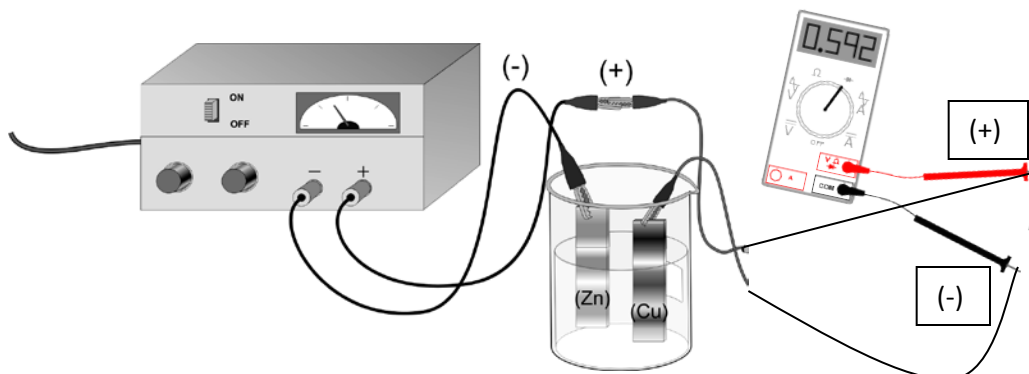

Figure 1
5. Obtain a DC power supply and a Voltmeter from the stockroom. Use the connecting alligator clip wires to connect the DC power supply to the Voltmeter, and to the two metal electrodes used in the electrochemical cell as shown in Figure 1. DO NOT ALLOW THE ALLIGATOR CLIPS TO HAVE CONTACT WITH ANY SOLUTION/LIQUIDS! Never submerge the alligator clips. Copper is the anode and zinc is the cathode in this cell because we do not want the reaction to occur spontaneously. **Note: Do not place the electrodes in the cell for data collection until Step 7.**